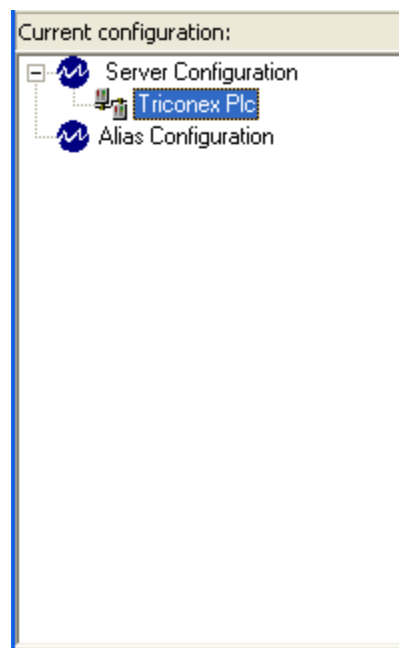

Figure 14 - New Triconex PLC Node (Ethernet) Object
8. Click on the **OK** button. The object is created and appears as a child of the **Server Configuration** item as shown in Figure 14.